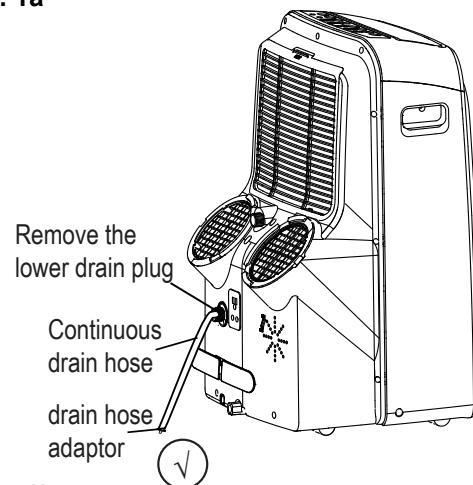

Fig. 1b
• Continuous drainage (Fig. 1b)